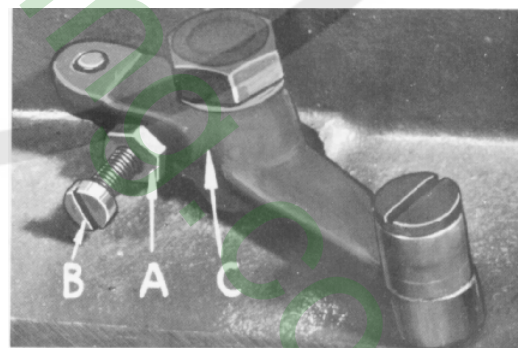
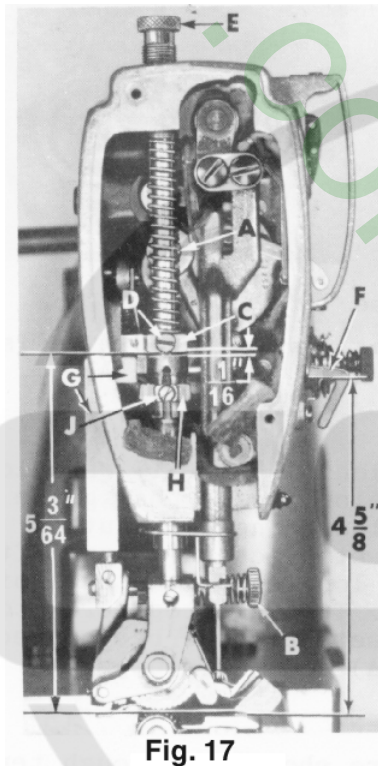

Fig. 16
Fig. 17
The presser spring (A, Fig. 17) should exert only enough pressure on the feed rollers to make the work feed uniformly. To increase the pressure on the presser foot, turn presser spring regulator (B, Fig. 17) in a clockwise direction.
When locating presser bar guide (C, Fig. 17) presser foot must rest directly against throat plate. Proper setting of guide is $5 \frac{3}{64}$ inches between underside of presser bar guide and the top of throat plate (Fig. 17). To obtain this setting, remove pressure from the presser spring (A) and loosen set screw (D). Tap on presser foot to insure it is down against throat plate. Set guide to the $5 \frac{3}{64}$ inch dimension, center foot by turning it so needle enters the middle of its slot and retighten screw (D). Apply pressure to top
Set needle thread pull-up bracket (F) so that underside of wire is $4 \frac{5}{8}$ inches above throat plate (Fig. 17).
Presser bar connection (G, Fig. 17) should be set about $\frac{1}{16}$ inch below presser bar guide (C). Accomplish this by loosening lock nut (A, Fig. 16), and relocating stop screw (B) on lifter lever bell crank (C), located at the back of machine, under bed plate. Turning stop screw to right or left, properly sets presser bar connection. Tighten lock nut (A) to lock stop screw.
Tension release should be set so as not release when sewing over seams or when presser foot is raised. Adjustment of tension release cam (H, Fig. 17) and in and out position of tension assembly are required for proper operation.
The tension release cam (H, Fig. 17) should now be positioned by loosening set screw (J) and then rising or lowering cam (H) to suit the sewing conditions. The average release point is between 1/4 and 5/16 inch of presser foot lift above the throat plate. Tighten tension release cam set screw securely.